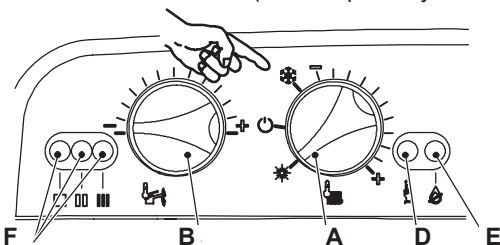

Figure 10.15
- 4 Turn the boiler ON positioning the function selector knob A as indicated in Figure 10.15 and ensure that the timer selector switch and room thermostat, if fitted, are set to "heat demand".